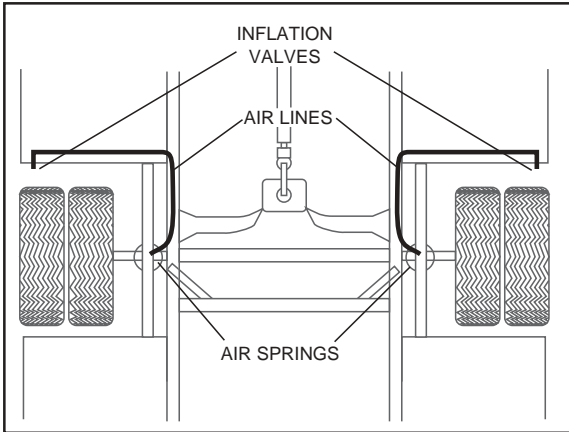

Figure 5
1. Choose a convenient location for mounting the inflation valves (Figure 5). Popular locations for the inflation valve are:
6. Route the air line along the frame to the air fitting on the air spring (Figure 5). Keep at least 6" of clearance between the air line and heat sources, such as the exhaust pipes, muffler, or catalytic converter. Avoid sharp bends and edges. Use the plastic tie straps (BB) to secure the air line to fixed, non-moving points along the chassis. Be sure that the tie straps are tight, but do not pinch the air line. Leave at least 2" of slack to allow for any movement that might pull on the air line.